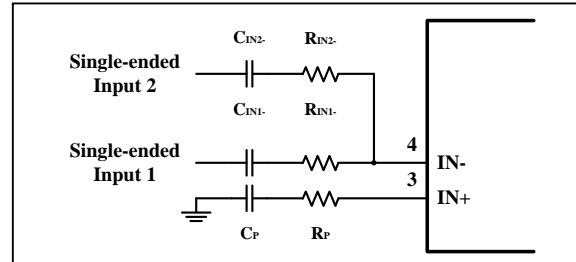

Figure 16 Application Circuit with Summing Two Single-Ended Inputs
The corner frequencies (f_{C1} and f_{C2}) for each input source can be set independently by Equations (9) and (10). Resistor, R_P , and capacitor, C_P , are needed on the IN+ terminal to match the impedance on the IN-terminal (Figure 16). The gain for each input source can be set independently by Equations (4) and (5).